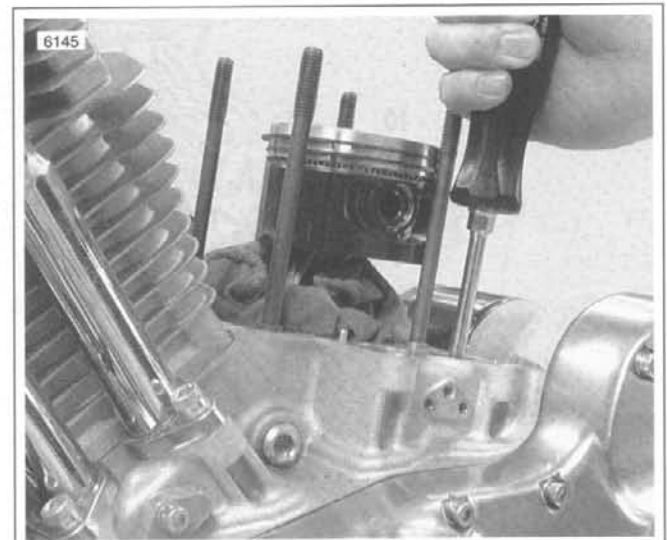

Figure 3-78. Checking Cam Gear End Play
6. See Figure 3-78. Check cam gear end play for each cam gear as follows: